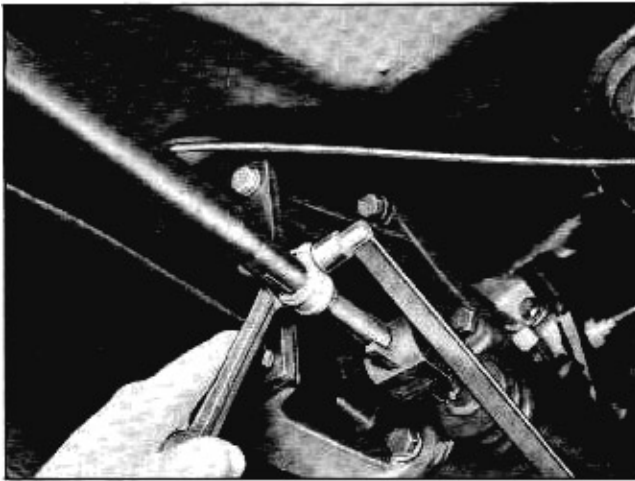

Fig. 7-7 Control Rod Clamp Nut
1. Loosen clamp nut securing control rod to control rod coupling. (Fig. 7-7).
7. Secure control rod to coupling by tightening clamp nut to 10-20 lb. ft. torque (Fig. 7-7).